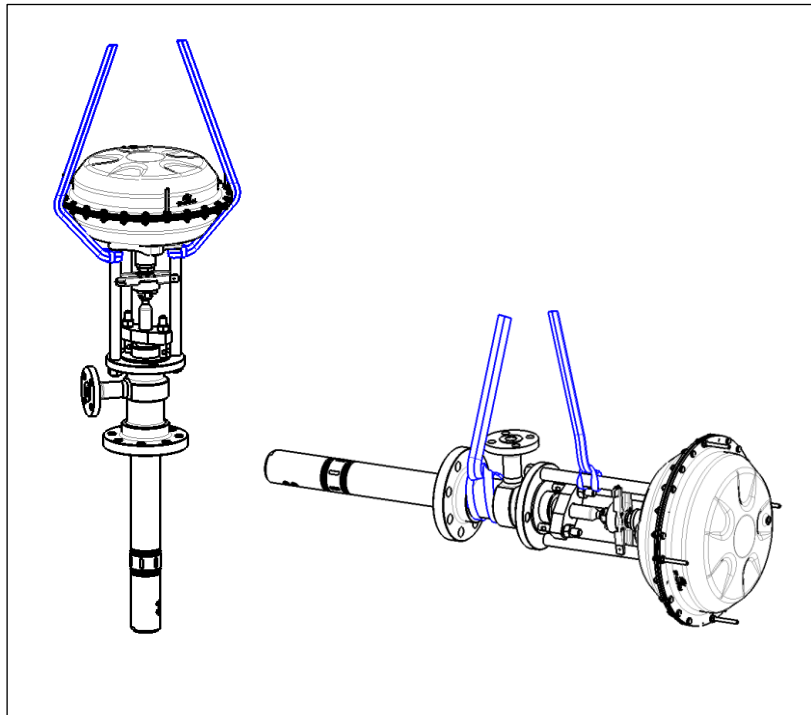

Figure 1 Typical representation of the handling options when installing the valve Left vertical lifting, right horizontal lifting.
1. Suspend the valve, but do not lift; see Figure 1. **Fehler! Verweisquelle konnte nicht gefunden werden.**